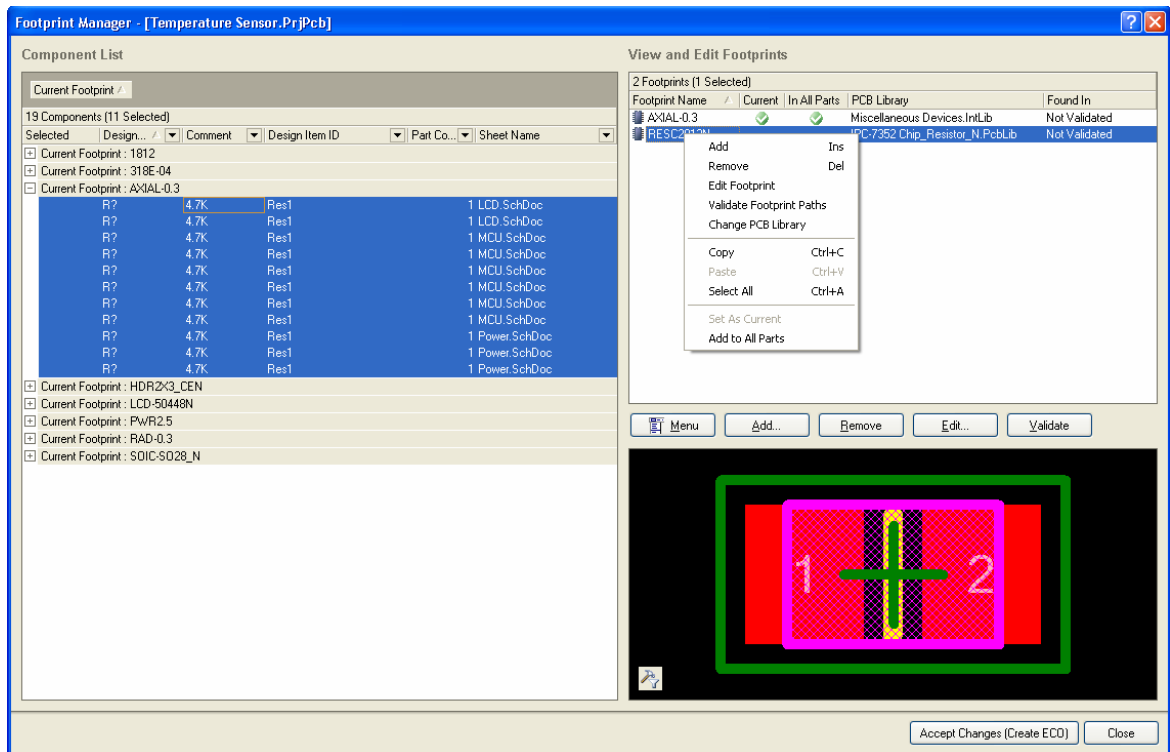

Figure 15. Set the Current Footprint for the selected components to the 0805 SMD footprint.
10. At the moment, the **AXIAL-0.3** footprint is still assigned as the current footprint for the selected components, to change this right click on the newly added RESC2012N footprint in the top right hand section of the *Footprint Manager*, and select **Set as Current**, as shown in Figure 15.